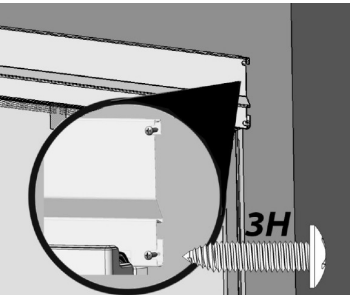

Fig. 23
- b. Drill 1/8" pilot holes and fasten two 3H screws on the right side of the Top Trim (one screw per side for Collared top trim) with a Phillips screwdriver to the cabinets (Fig. 23).